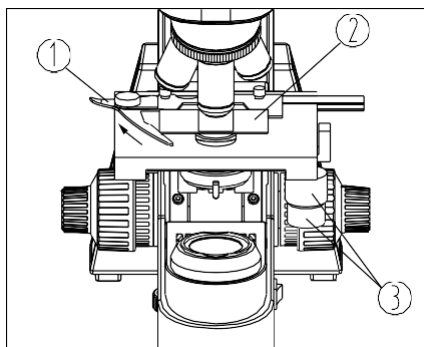

Fig.9
2. Loosen the wrench ①, and clamp the slide ② by the clips while the cover glass faces up (see Fig. 9).
3. Rotate the X and Y-axis knob ③ . Move the specimen to the center (alignment with the center of the objective).